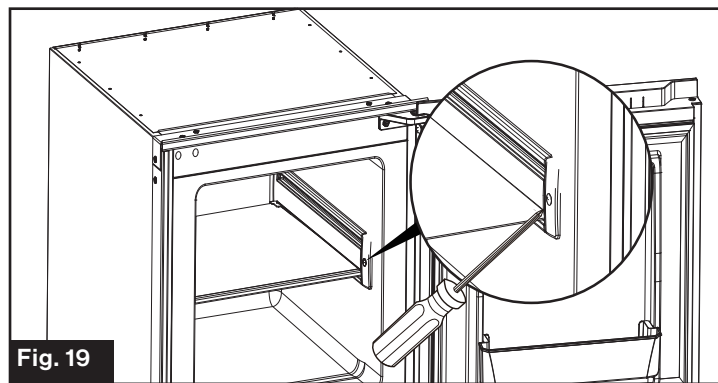

Fig. 19
3. Loosen the fixing screw using a Phillips screwdriver. (Fig. 19)